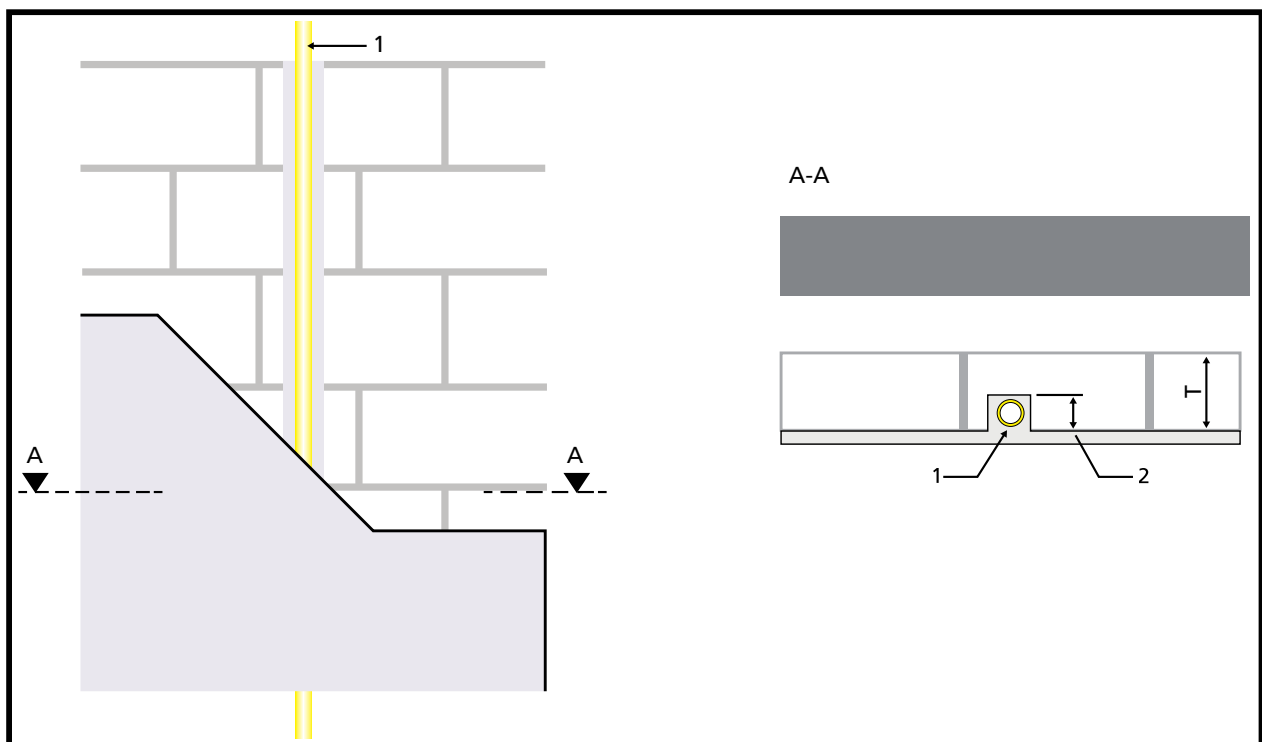

Figure 13: Brick and block plastered wall
Examples of Gastite® tubing in masonry and timber frame walls are presented in Figures 13 -16.
- brick and block plastered (Figure 13)